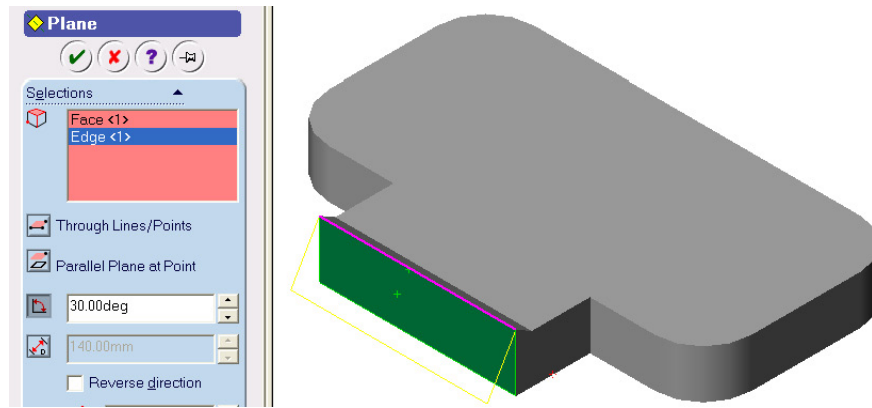

Figure 8 Plane At Angle for slot body
3. Select the edge of the boss tip as shown in Figure 8.